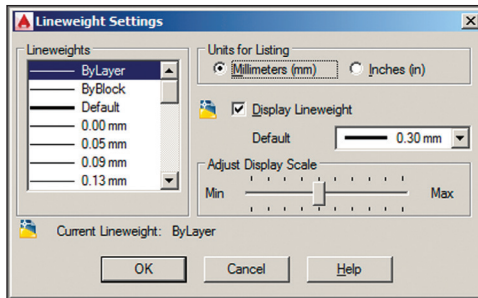

FIGURE 3.3 Adjusting the default lineweight settings
7. Right-click the Lineweight icon, and choose Lineweight Settings from the context menu. Open the Default drop-down list, select 0.012" (or 0.30 mm) (see Figure 3.3), and click OK.